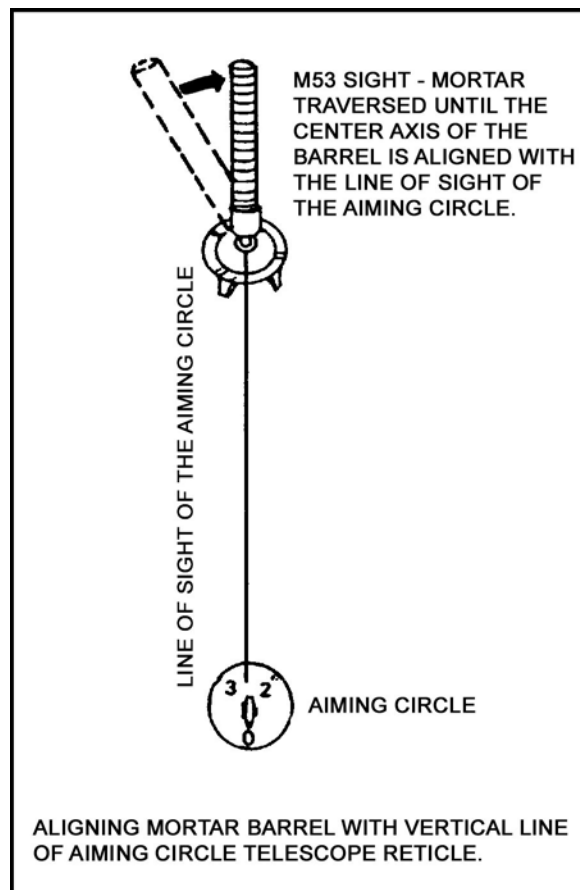

Figure 1. Aligning mortar barrel.
- c. The gunner traverses and cross-levels the mortar until the center axis of the barrel from the baseplug to the muzzle is aligned with the vertical crosshair in the telescoping reticle of the aiming circle (Figure 1).